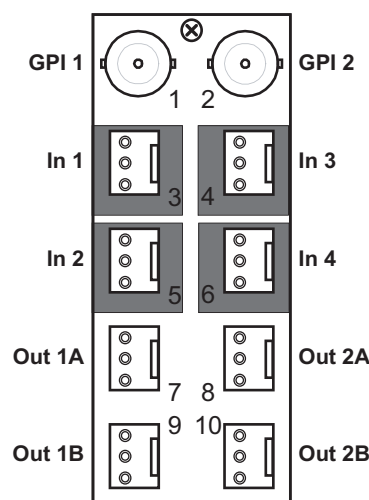

Figure 2.3 Cable Connections for the 8310AR-034 and 8320AR-034 Rear Modules
- **8310AR-034 Rear Module** — This module includes two BNC connectors and eight AES connectors. When using this module, connect the input and output cables according to **Figure 2.3**. The inputs are internally terminated in 110ohms. It is not necessary to terminate unused outputs.
- **8320AR-034 Full Rear Module** — Each rear module occupies two slots and accommodates one card. This rear module includes two BNC and eight AES connectors. (Figure 2.3)